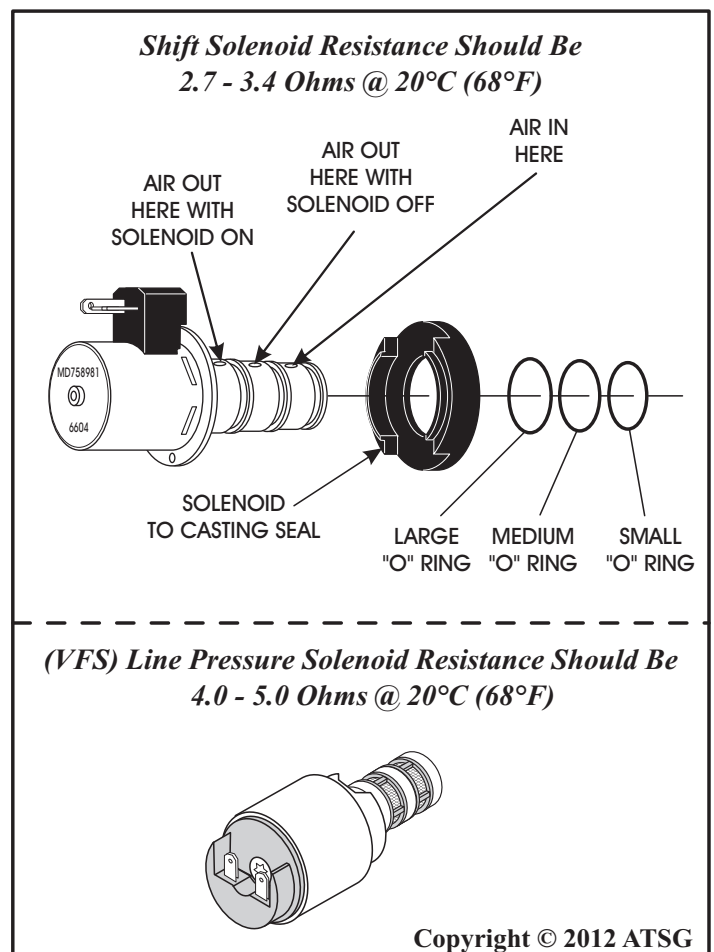

Figure 225
19. All shift solenoids can be air checked using the procedure shown in Figure 225.
20. Install new solenoid to solenoid body casting seal, as shown in Figure 225, on shift solenoids.
21. Install new "O" rings onto shift solenoids, as shown in Figure 225, and lubricate with small amount of Trans-Jel®.